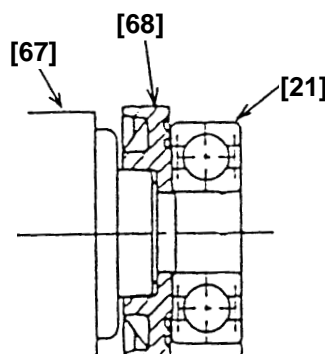

Fig. 5
- (2) When replacing the Ball Bearing [21] on the commutator side of the Armature [67], take note of the direction of the Dust Seal [68] (Fig.5).